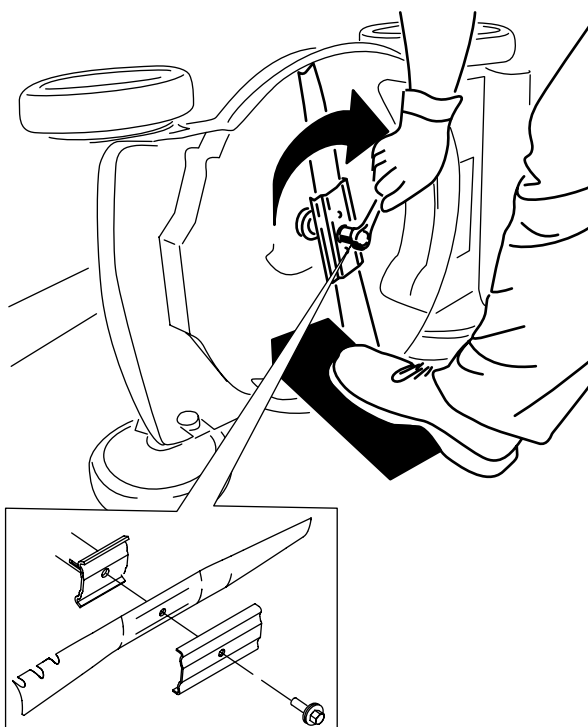

Figure 21
4. Install the new blade and all mounting hardware (Figure 21).